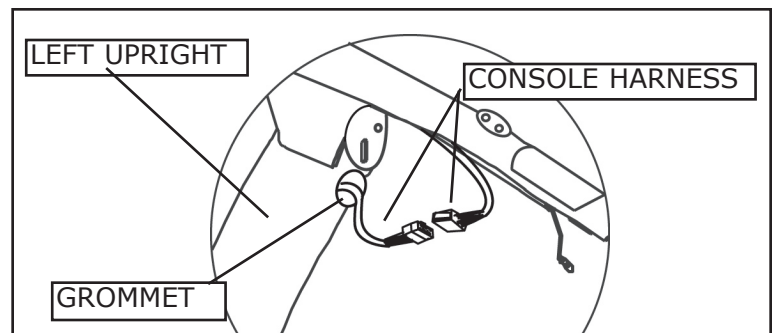

Figure 4a: Console Installation
4. Connect the Console Harness together as shown in Figure 4a. **Note:** The upright console harness wire should be inserted through grommet in left upright before connecting to harness from console assembly.